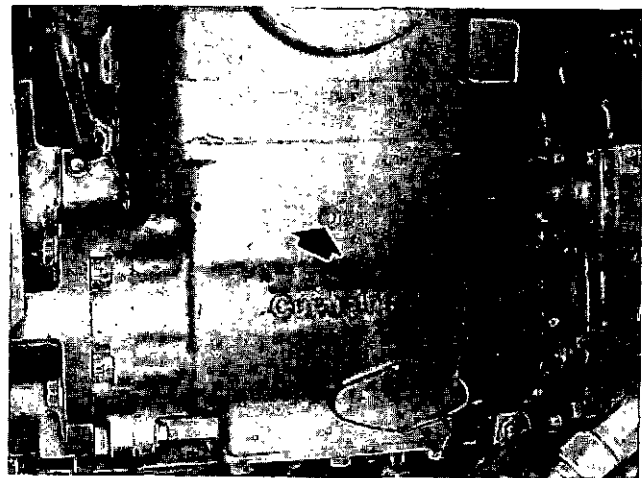

Fig. 1-20, (K21904). Two cylinder air compressor coolant drain
2. Drain the cylinder block and heads on all engines by opening the petcocks and removing the drain plugs as shown in Fig.'s 1-13 to 1-19. If an air compressor (Fig. 1-20), heat exchanger or other "water cooled" accessory is used, open the petcock and drain. Failure to properly drain the engine and accessories may cause serious damage during freezing weather.